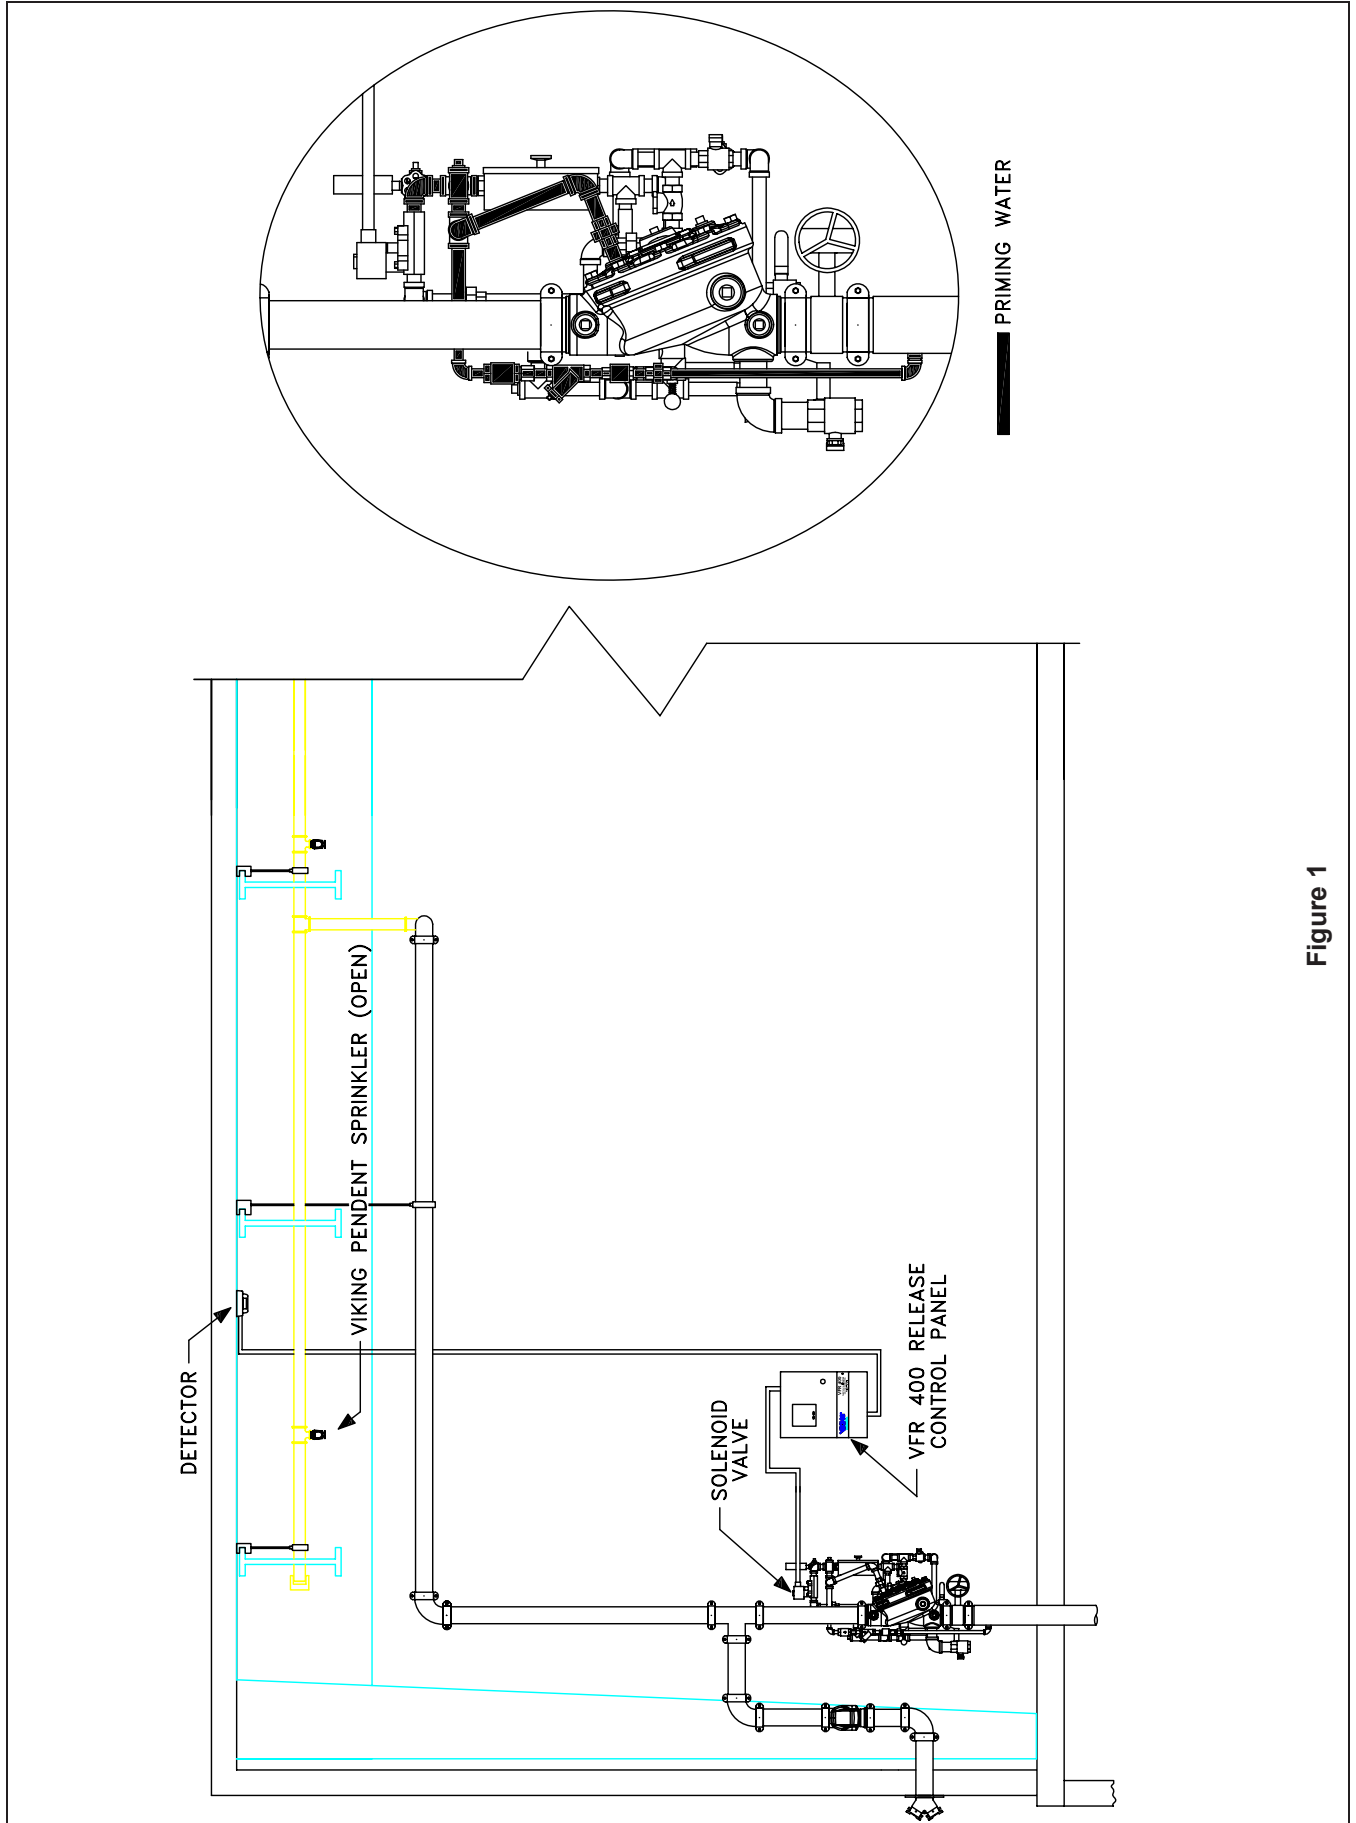
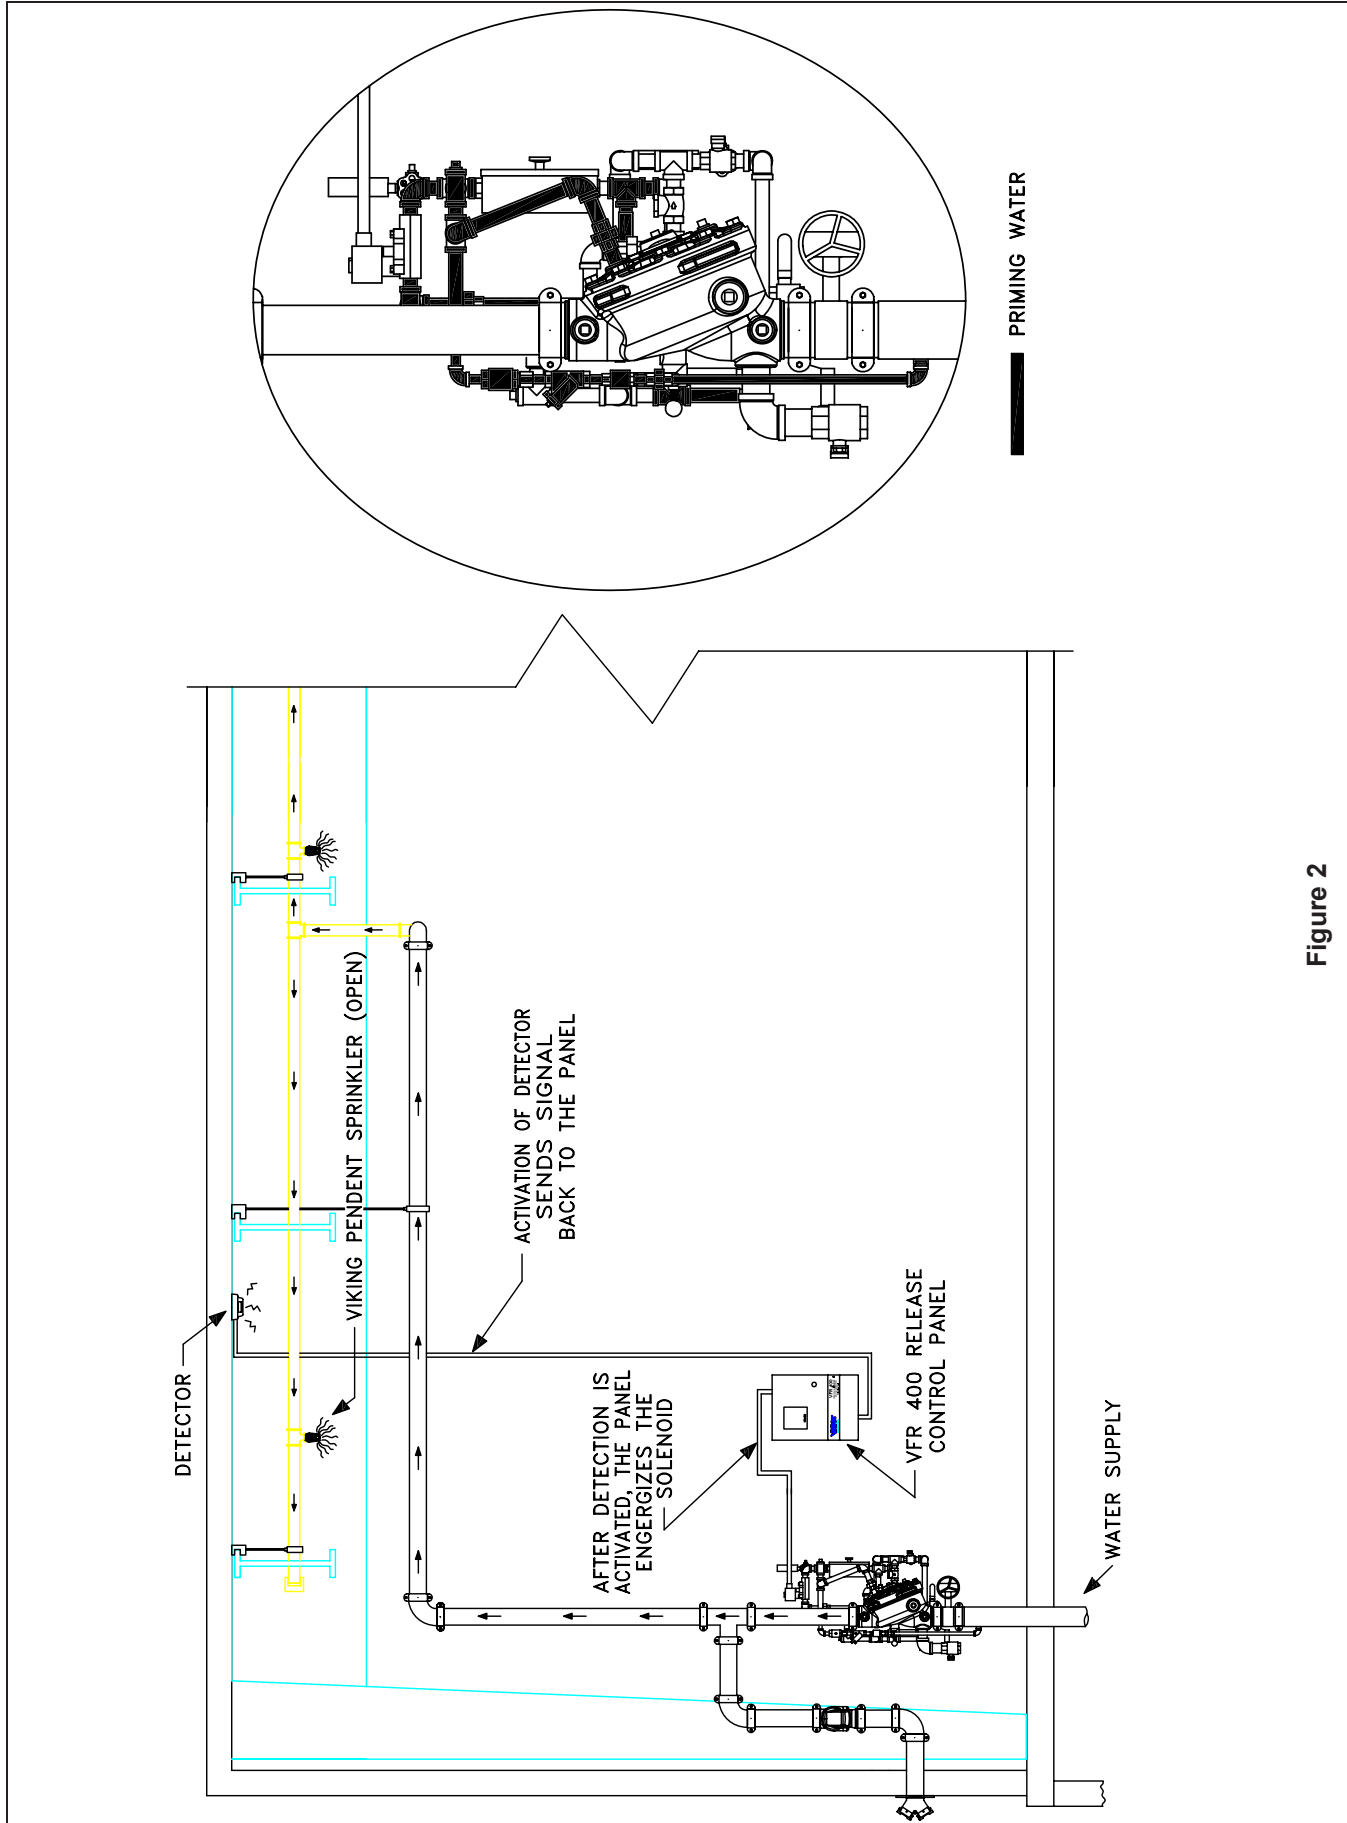

Figure 1
Figure 2
A Deluge System is a fixed fire protection system in which the pipe system is empty until the deluge valve operates to distribute pressurized water from open nozzles or sprinklers. Deluge systems are more complex than wet pipe and dry systems because they contain more components and equipment. The deluge valve is activated by operation of a fire detection system installed in the same area as the sprinklers (Figure 1). Various types of detection systems may be used, including smoke, heat, ultraviolet (UV), or infrared (IR) detection. The Viking deluge system can be activated by a hydraulic, pneumatic, electric, or manual release system or any combination of these release systems. But, in all cases, the deluge valve itself is activated hydraulically. When the detection device is activated, the deluge valve is tripped and water flows into the piping system, discharging through all spray nozzles or sprinklers simultaneously (Figure 2).